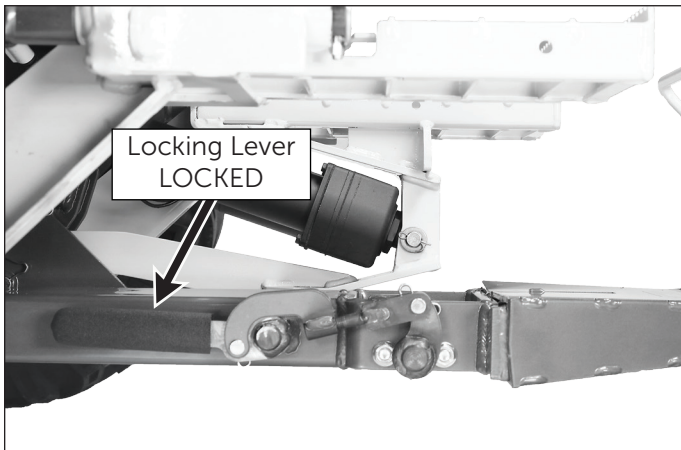

Figure 2.7: H19 Locking Lever in "LOCKED" Position
- **Locking:** Rotate the hitch lock lever **fully backward** to the **LOCKED** position as in Figure 2.7.